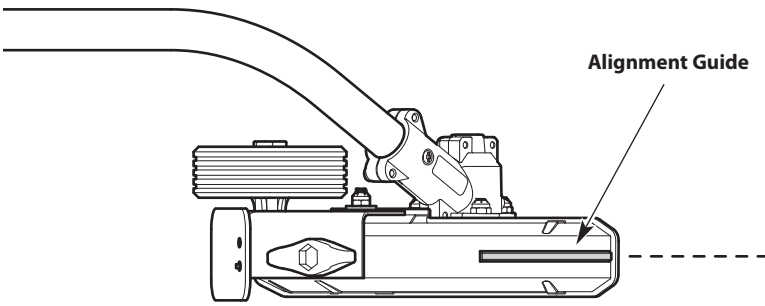

Fig. 14
- Use the alignment guide to help maintain proper alignment (Fig. 14).